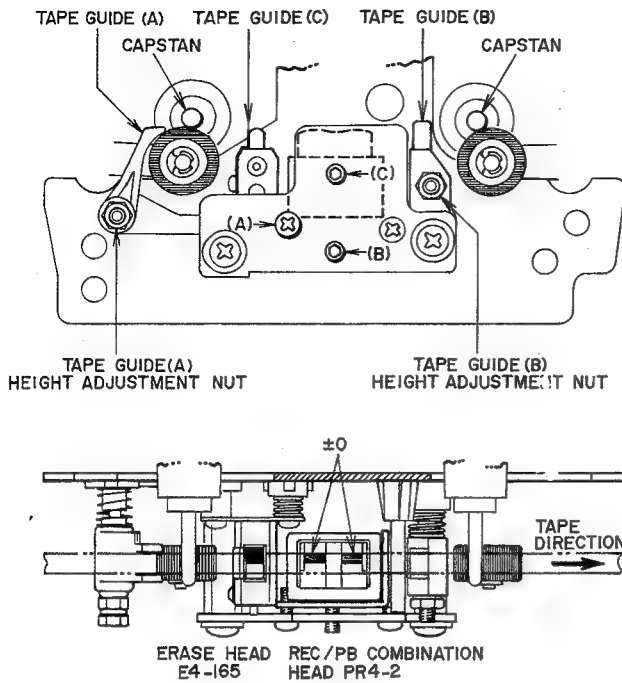

Fig. 14
1. TAPE GUIDE HEIGHT ADJUSTMENT (Refer to Figs. 14, 15)
- 2) At playback mode, using the erase head guide (C) shown in Fig. 14 as standard for height, adjust tape guide (A) and tape guide (B) height with tape guide height adjustment nuts so that the tape runs smoothly and does not catch on the tape guides.
2. HEIGHT ADJUSTMENT OF RECORDING/ PLAYBACK COMBINATION HEAD (Refer to Fig. 14)
- 2) As shown in Fig. 14 adjust head height with screws (A), (B) and (C) until the upper edge of the tape is the same height as the upper edge of the left channel REC/PB Combination head core.
3. AZIMUTH ALIGNMENT ADJUSTMENT OF RECORDING/PLAYBACK COMBINATION HEAD (Refer to Fig. 14)